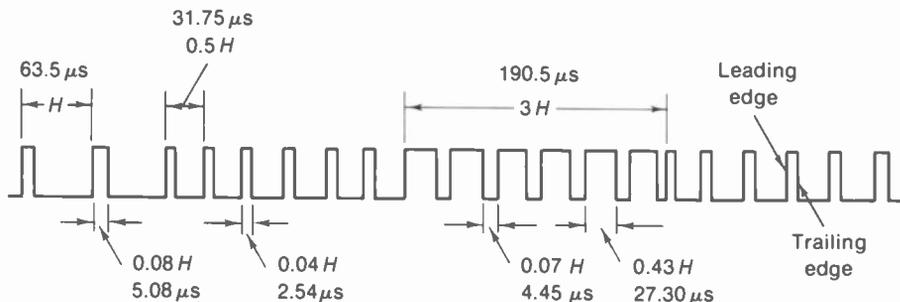

FIGURE 16-6 WAVEFORM OF THE SYNCHRONIZING PULSES.  $H$  IS HORIZONTAL LINE TIME OF  $63.5 \mu\text{s}$ .
**Waveform separation.** This means separating the vertical sync from the horizontal sync. The total separated sync voltage includes horizontal, vertical, and equalizing pulses, as shown in Fig. 16-6. All have the same amplitude, but they differ in their repetition rate, or frequency, and in pulse width. We can think of the width as the time the pulse is on. The horizontal sync with a narrow pulse width of  $5 \mu\text{s}$ , repeated at 15,750 Hz, represents a high-frequency signal compared with vertical sync. The vertical pulses are repeated at the slow rate of 60 Hz. The width is  $27.3 \mu\text{s}$  between the narrow serrations with a total width of  $190.5 \mu\text{s}$  or three horizontal lines.